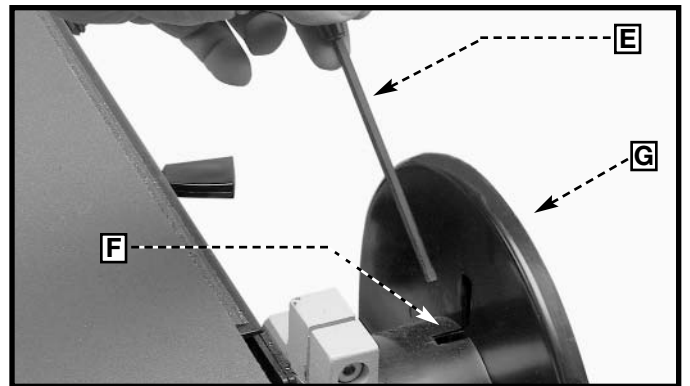

Fig. 11
2. Insert a hex wrench (E) Fig. 11 through the slot (F) in the back of belt and pulley guard (G). Tighten the set screw that holds the disc plate on the drive shaft.